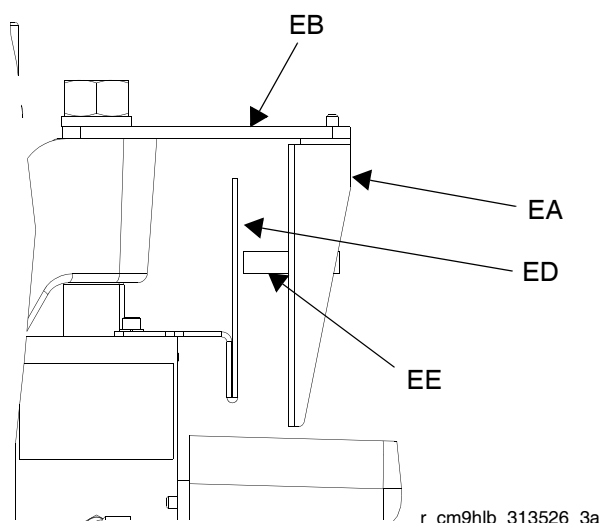

Fig. 10: S20 supply systems
5. For S20 supply systems: Attach the actuator (ED) to the ram cylinder endcap, so the sensor (EE) passes in front of the bracket (ED) at the correct level for drum low or drum empty. See FIG. 10.